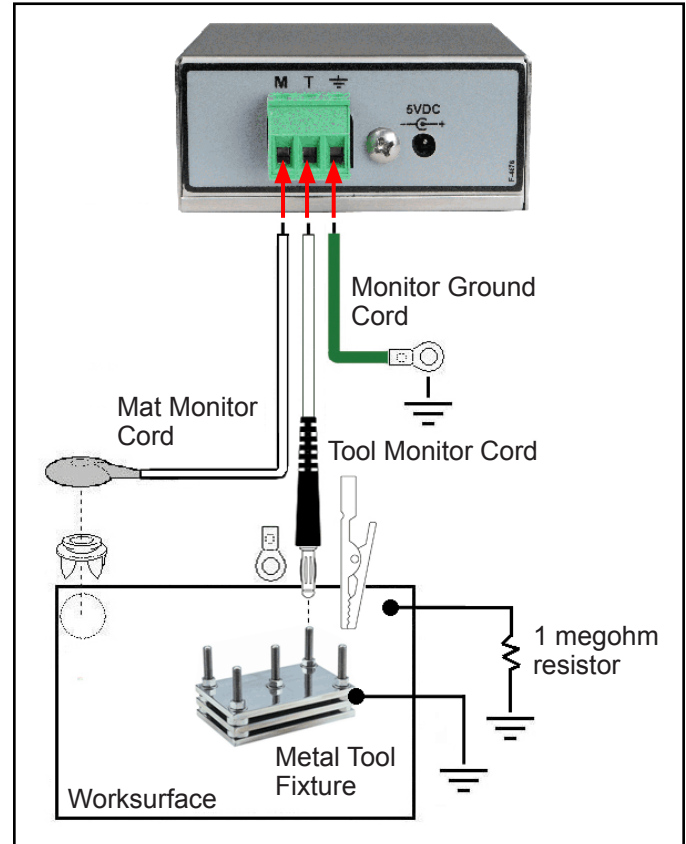
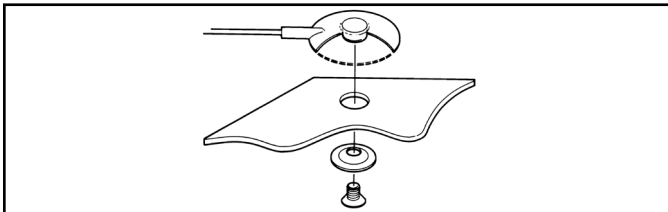

Figure 3. Installing the Body Voltage Monitor
Figure 5. Screw allows ground cord to be bolted to mat to keep cord from disconnecting
4. Route the mat monitor cord from the back of the monitor to the worksurface mat. Use either the included push and clinch snap or washer and screw to secure the cord to the mat (see Figure 5). The worksurface mat requires its ground cord to have an embedded 1 megohm resistor such as the Desco 09813 (see Figure 3).